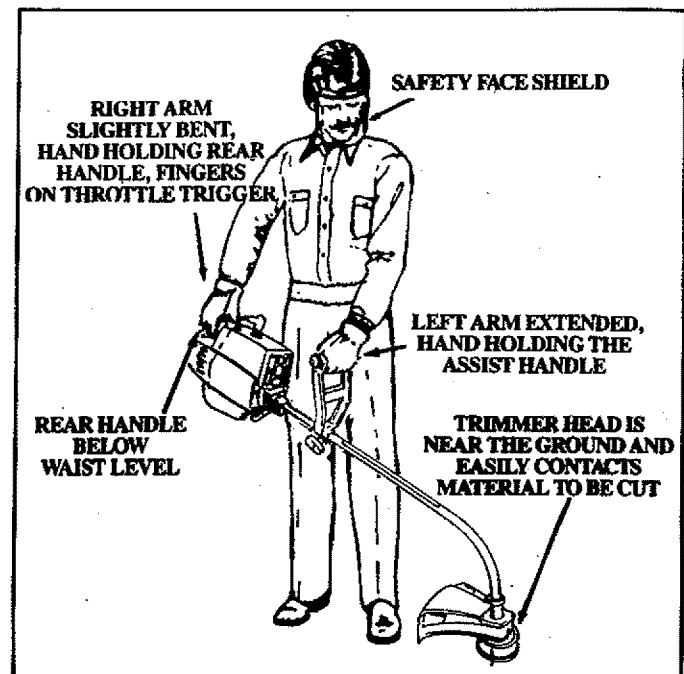

Figure 6
### 5. OPERATING POSITION — Figure 6
- a. Before starting the Engine, stand as shown in Figure 6 and check for the following: